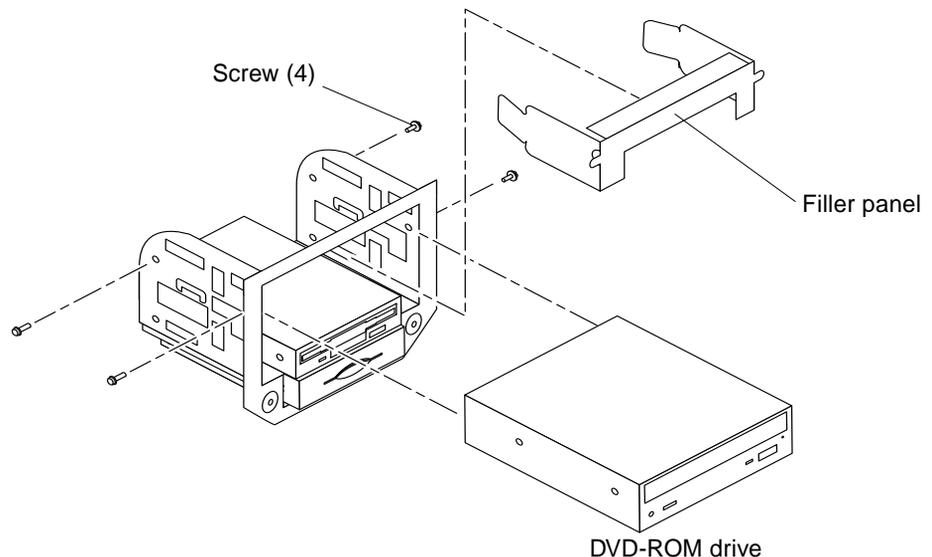

FIGURE 7-3 Removing and Replacing the DVD-ROM Drive
1. Position the peripheral assembly on a flat surface so that the DVD-ROM drive or tape drive is flat (FIGURE 7-3).
1. **Remove the filler panel if necessary (see FIGURE 7-3).**
1. **Remove the filler panel if necessary** (see FIGURE 7-3).
1. **Remove the filler panel if necessary** (FIGURE 7-3).